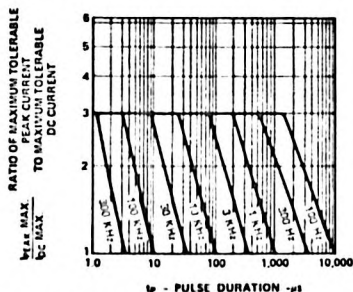

Figure 5. Maximum Tolerable Peak Current vs. Pulse Duration. ($I_{DC\text{ MAX}}$ as per MAX Ratings).
- See Figure 5 (Red/Orange), 10 (Yellow) or 15 (Green/Emerald Green) to establish pulsed operating conditions.